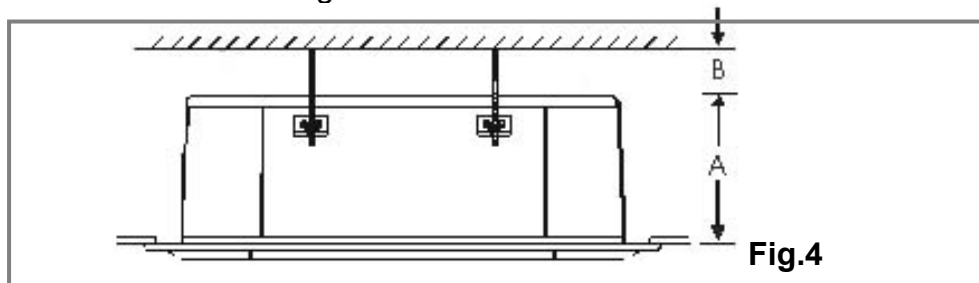

Fig.4
4. Check the distance between the upper slab and false ceiling to ensure the unit will suit the distance. See Fig.4